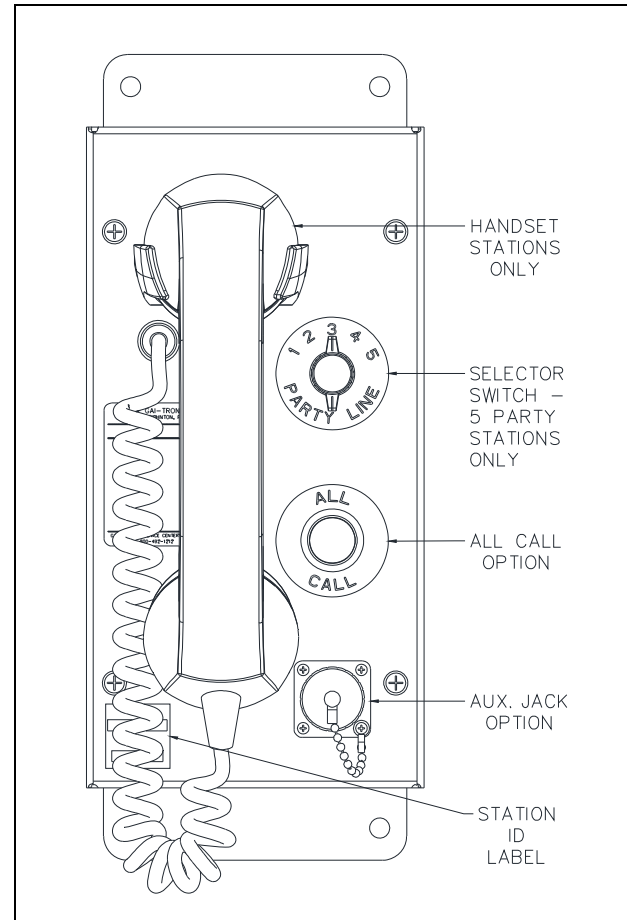
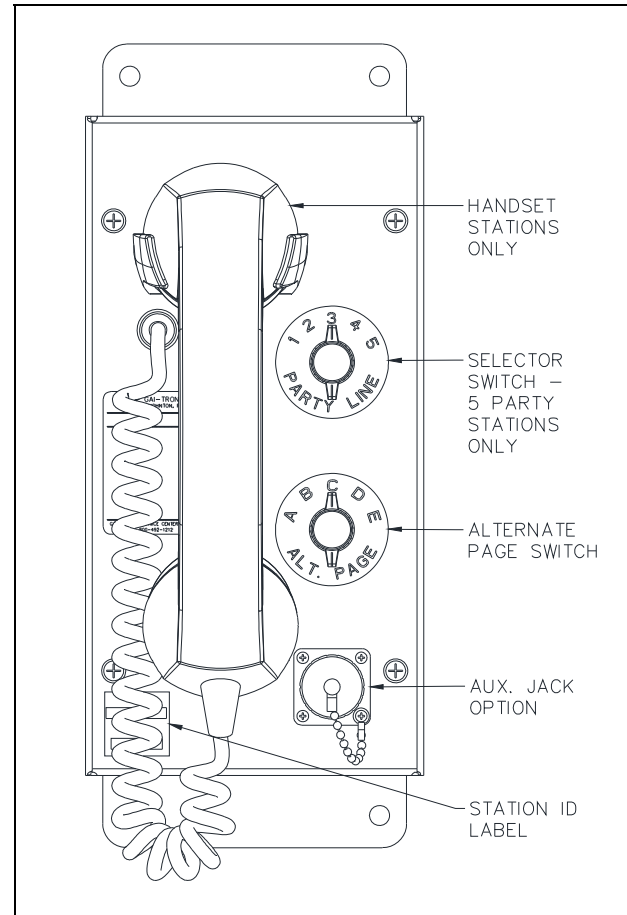

Figure 12. All-Call Button Location
Figure 13. Alternate-Page Switch Location
Use the ALL-CALL button to page an alternate destination that is programmed for the station (see Figure 12). The ALL-CALL option must be software configured for the SP2 station. To initiate a page using the ALL-CALL feature:
Use the ALT-PAGE selector switch to page one of five alternate destinations programmed for the station (see Figure 13). Alternate page destinations must be software configured for SP2 stations. To initiate a page using the ALT-PAGE selector switch:
1. Attach the headset assembly to the auxiliary jack on the station (see Figure 12 or Figure 13).